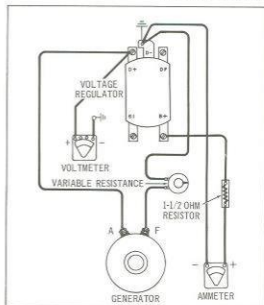

Figure 5I-7.
3. With the regulator cover in place and the regulator at operating temperature, increase the engine speed to approximately 2700 RPM (45 MPH road speed) and read the voltmeter. If the voltmeter reading falls within the limits given in Fig. 5I-1, it indicates that the voltage regulator is operating properly.
If the voltmeter reading does not fall within the limits given in Fig. 5I-1, the voltage regulator must be replaced or adjusted according to manufacturer's Service Bulletin.
A. TESTING GENERATING SYSTEM (FIG. 5I-7)
B. TESTING CUTOUT RELAY UNIT CLOSING VOLTAGE - SAME CONNECTIONS ARE USED AS IN TEST A (FIG. 5I-7)
3. Slowly turn field control toward "Direct" position. As the resistance is decreased, the voltmeter reading will increase. Note the highest reading on the voltmeter before the pointer "kicks". This will be the relay closing voltage. Repeat operation a few times, each time returning the field control resistor to "Open" position. If the closing voltage is not within specifications, (see Fig. 5I-1) replace regulator.
C. TESTING VOLTAGE CONTROL UNIT SETTING. (FIG. 5I-8)